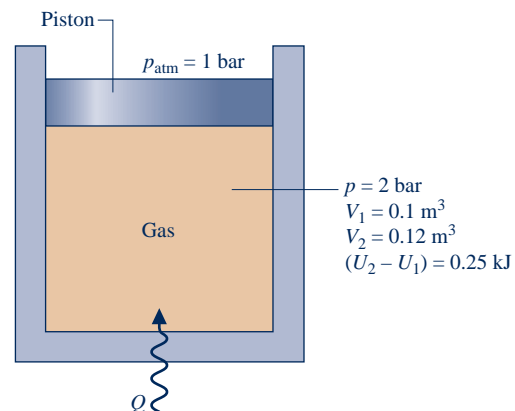

Fig. P2.56
2.56 As shown in Fig. P2.56, a gas contained within a piston-cylinder assembly, initially at a volume of 0.1 m³, undergoes a constant-pressure expansion at 2 bar to a final volume of 0.12 m³, while being slowly heated through the base. The change in internal energy of the gas is 0.25 kJ. The piston and cylinder walls are fabricated from heat-resistant material, and the piston moves smoothly in the cylinder. The local atmospheric pressure is 1 bar.